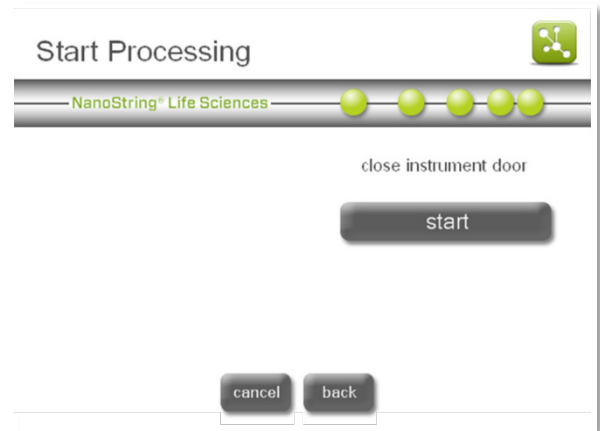

Figure 140: The 'Start Processing' screen.
- The 'Start Processing' screen will appear (Figure 140). Press **start** to initiate the protocol.